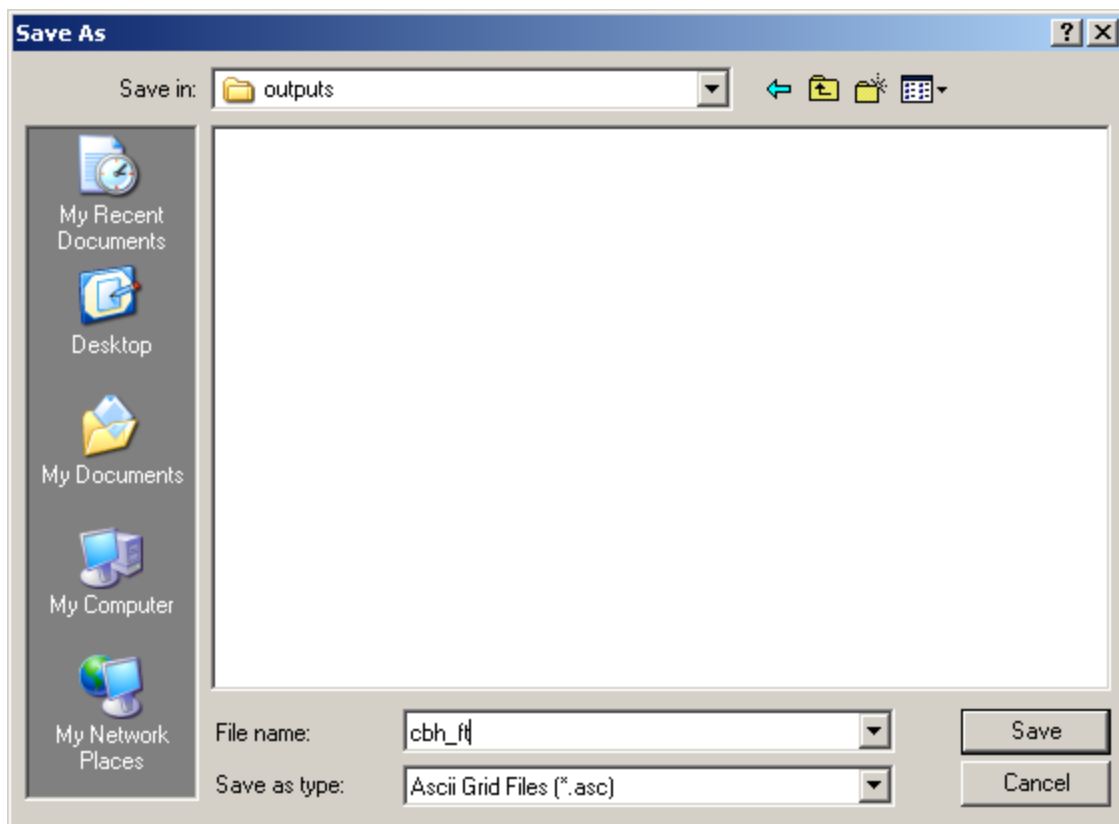

Figure 4-15—Saving a theme for further use in ArcMap.
- a) Navigate to the outputs folder in the ArcFuels directory, and save the file as an ASCII file named “cbh_ft” (fig. 4-15). File type options include: ASCII, BMP, JPEG, GIF, TIFF, PNG). The default is an ASCII file that can be easily converted to a grid using ArcFuels10.